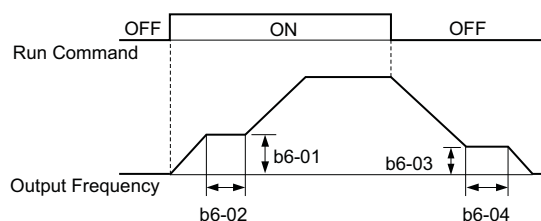

Figure 5.29 Dwell Function at Start and Stop
*Figure 5.29* shows how the Dwell function works.